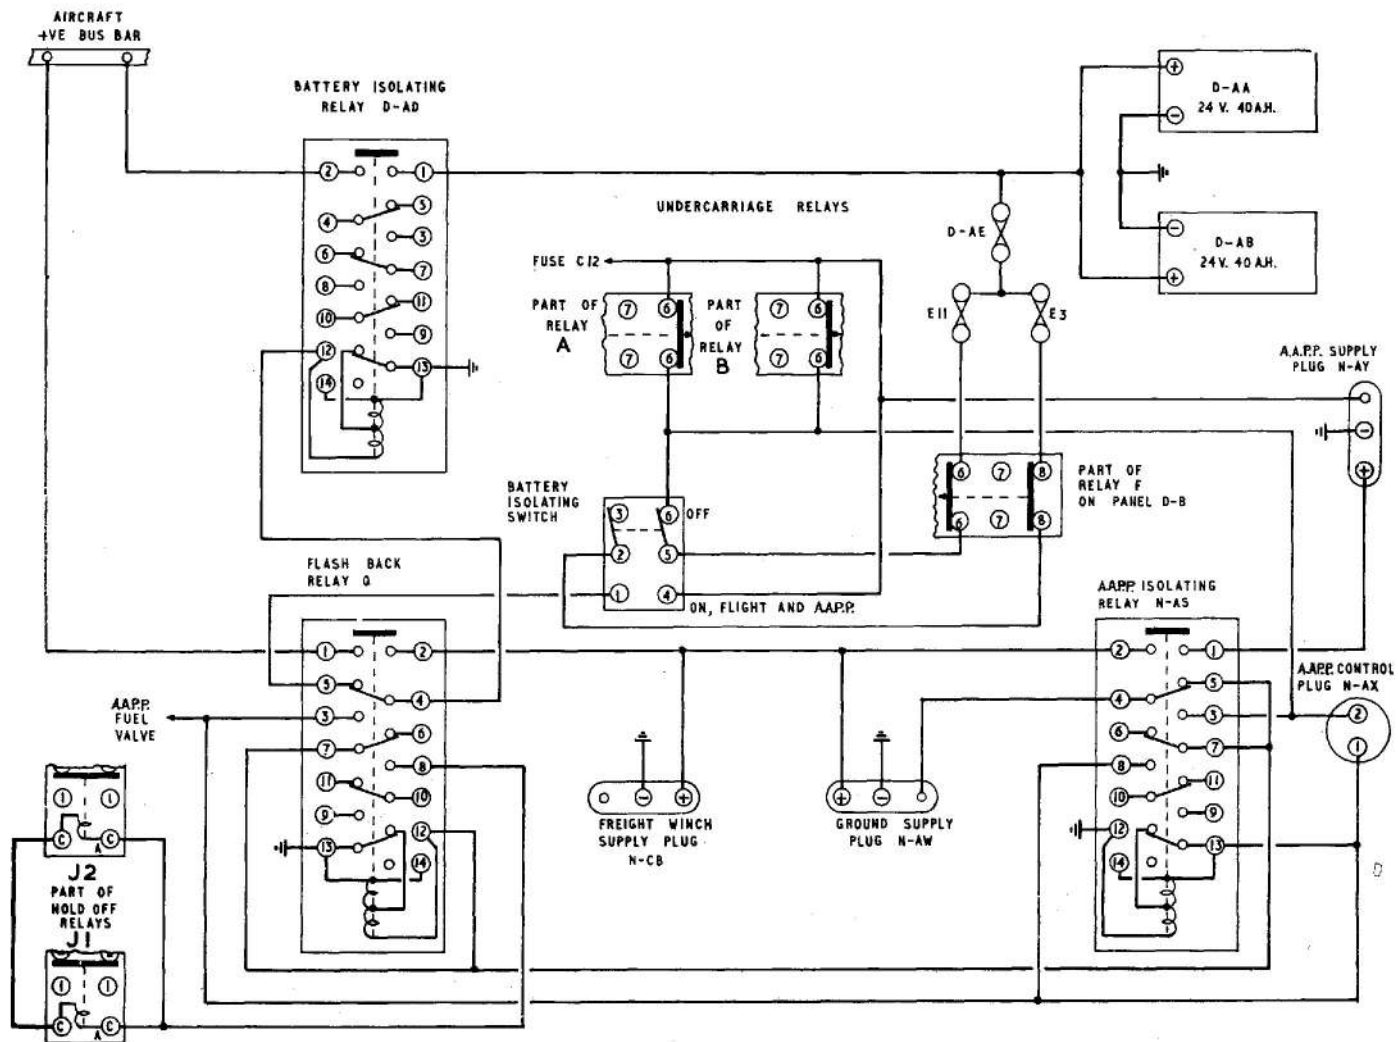
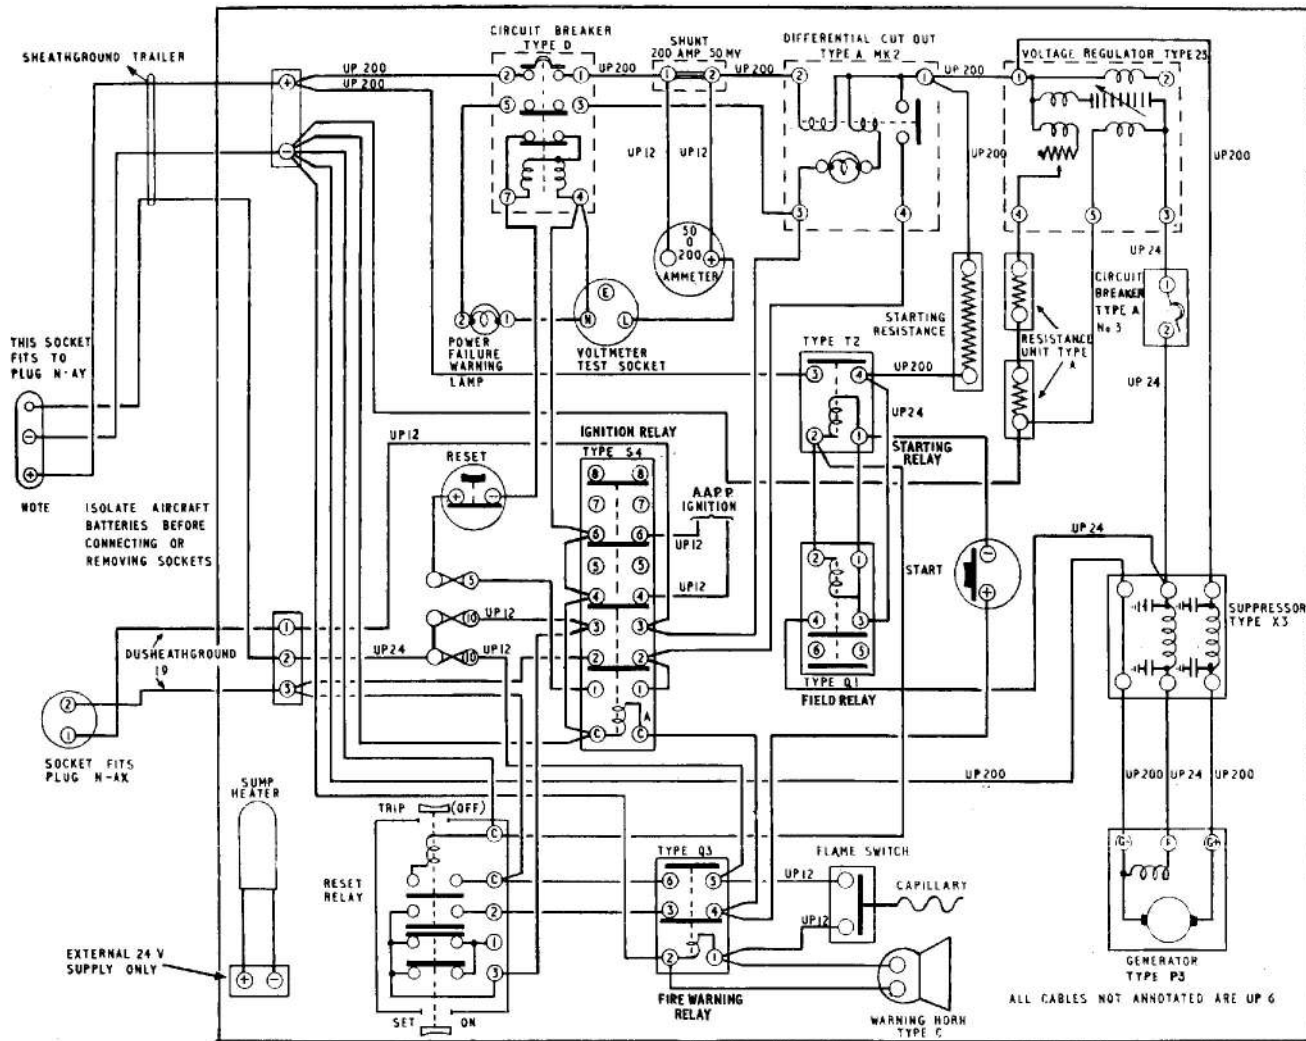

Fig. 4. Associated aircraft circuit diagram
Fig. 5. A.A.P.P. circuit diagram
4. The following paras should be read in conjunction with fig. 4 and 5.
5. With A.A.P.P. socket connected to the supply plug in the aircraft and the battery switch in the ON/FLIGHT AND A.A.P.P. position, a 28-volt supply from fuse E.3 (fig. 4) is fed via contacts 2-1 on the switch, and 5-4 on the flash-back relay, to energize the battery isolating relay. Contacts 1-2 on the isolating relay connect the battery to the bus-bar. At the same time a 28-volt supply from fuse E.11 will be fed via contacts 6-6a on crash relay F, 5-4 on the battery switch, the light duty pole on the A.A.P.P. plug and socket, to terminal 2 on the terminal block (fig. 5) to feed the two 10 amp. fuses in the unit. One fuse feeds terminal 3 on the ignition relay and is also linked to terminal 3 on the reset relay.
7. Completing a supply to terminal 13 of the isolating relay (fig. 4) will energize the relay and close contacts 1-2, 3-4 and 7-8, open contacts 5-4 and 12-13. The opening of contacts 12-13 inserts the economy coil in the isolating relay and contacts, 5-4 break the ground supply plug circuit to the flash-back relay. Contacts 3-4 make the A.A.P.P. safety circuit so that, should the ground supply be connected, the reset relay would be tripped. Contacts 8-7